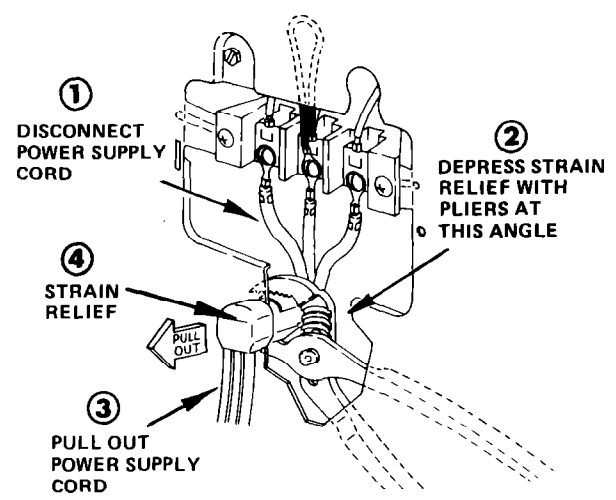
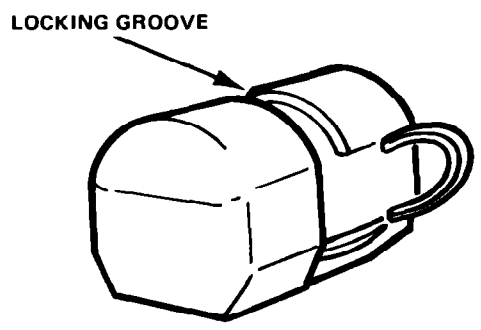

Figure 12
Figure 13
- d. Using adjustable pliers (See Figure 12), depress the strain relief. At the same time pull outward on the power supply cord until the locking groove in the strain relief clears the dryer back panel. See Figure 13.
4. Using adjustable pliers (See Figure 12), depress the strain relief. At the same time pull outward on the power supply cord until the locking groove in the strain relief clears the dryer back panel. See Figure 13.